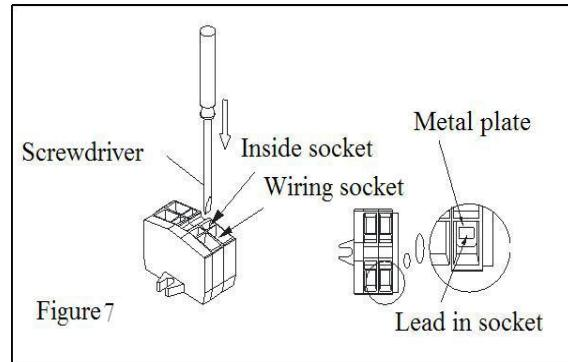

Figure 7
19. Power cable to the light(phase line and null line) shall be plug in socket L and N outside the terminals in junction chamber. Use proper screw driver to press down from inside as the arrow shows to make the terminal metal plate out, then plug in the sockets(see Figure 7). See Figure 9 for the electrical schematic diagram. Same way to plug out the cable.